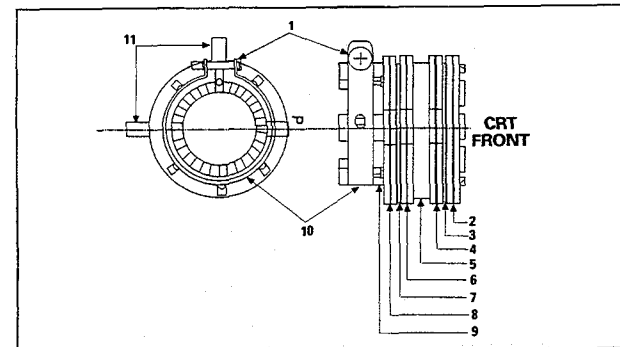

Figure 6-12. Toshiba Magnet Configuration
2. Very carefully break the glue seal between the two-pole purity convergence magnets (PCM) and the convergence bow magnets (see figure 6-12).
Convergence bow adjustments are not available for any of the CRTs used in the SyncMaster 15GLi monitors. While the Toshiba CRTs have convergence bow magnets, they are sealed in the CRT factory and are not user or service technician adjustable. Do not touch these magnets (see Figure 6-12). Phillips CRTs do not have convergence bow magnets, and, therefore, no convergence bow adjustments are available. If color purity is out of alignment, replace the CRT.